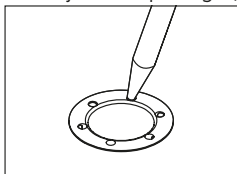

Fig. 3 Inject the adhesive
3. Press the nozzle of the adhesive cartridge into the intended injection openings (Fig. 3).